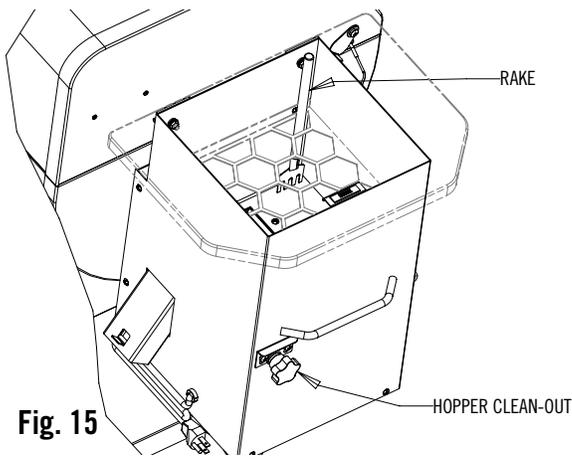

Fig. 15
6. Store the rake in the corner of the hopper as shown in Fig 15.